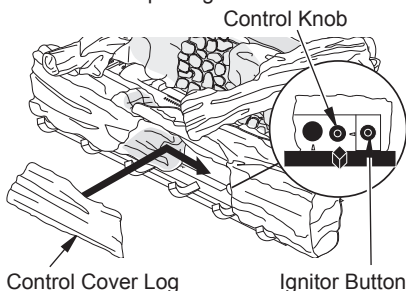

Figure 26 - Control Knob (Shown in the OFF Position) and Ignitor Button Location
3. Remove control cover log (see Figure 26).
- Replace control cover log (see Figure 26, page 18).